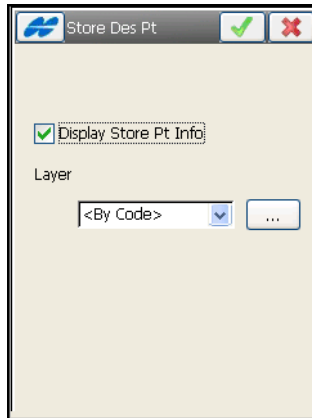

Figure 9-13. Select Layer for Staked Point
15. Select the *Design Pt/Layer* option from the menu popped up after tapping the bitmap in the upper-left corner of the *Stakeout* screen. In the *Store Design Point* screen (Figure 9-13), select the layer from the drop down list or tap the **List**  button to edit layers.